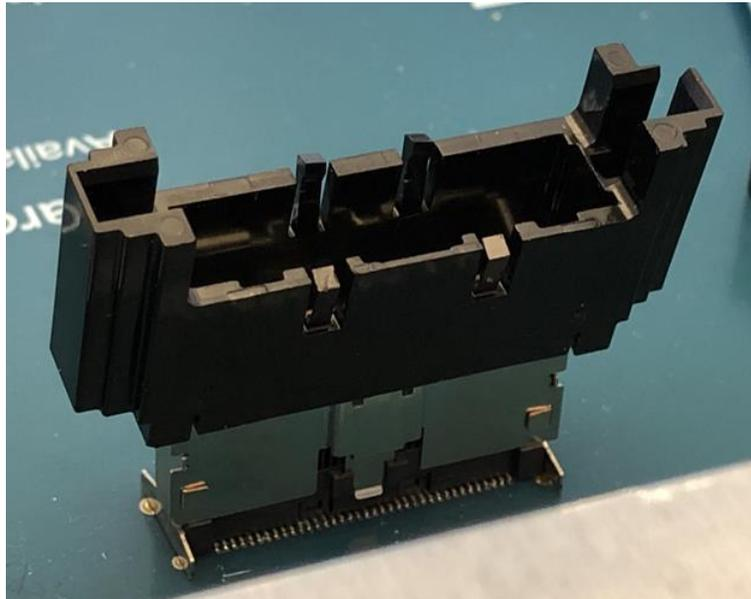

Figure 6
- The mounted sleeve can be pulled off the board, as shown in Figure 6.